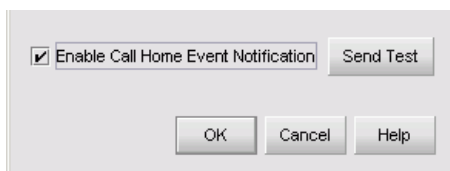

Figure 2-61 Configure Call Home Event Notification Dialog Box
2. At the SANavigator or EFCM main window, select the *Event Notification* and *Call Home* options from the *Monitor* menu. The *Call Home Event Notification Setup* dialog box displays (Figure 2-61).